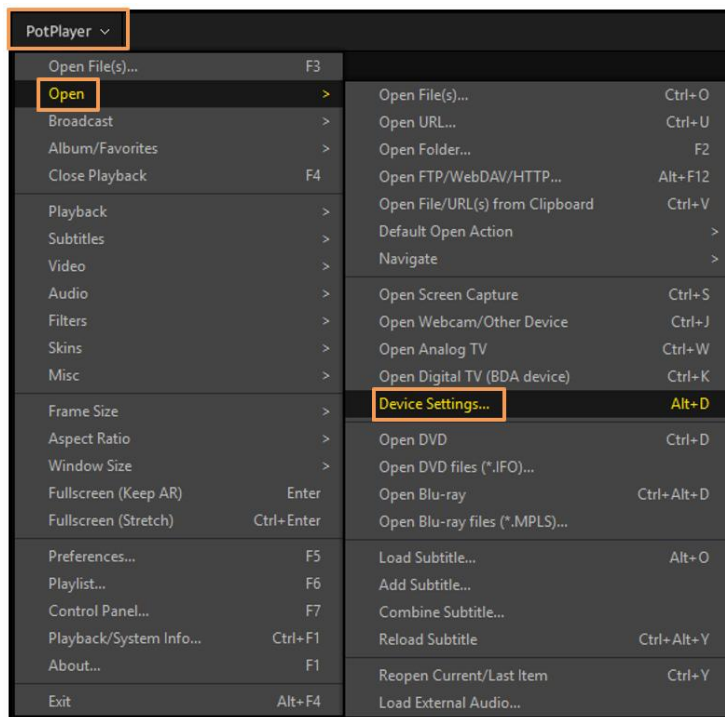

Figure 7.5. Device Settings in PotPlayer 2
2. To configure output resolution, either press the shortcut Alt+D or click **PotPlayer > Open > Device Settings...**, as shown in Figure 7.5.